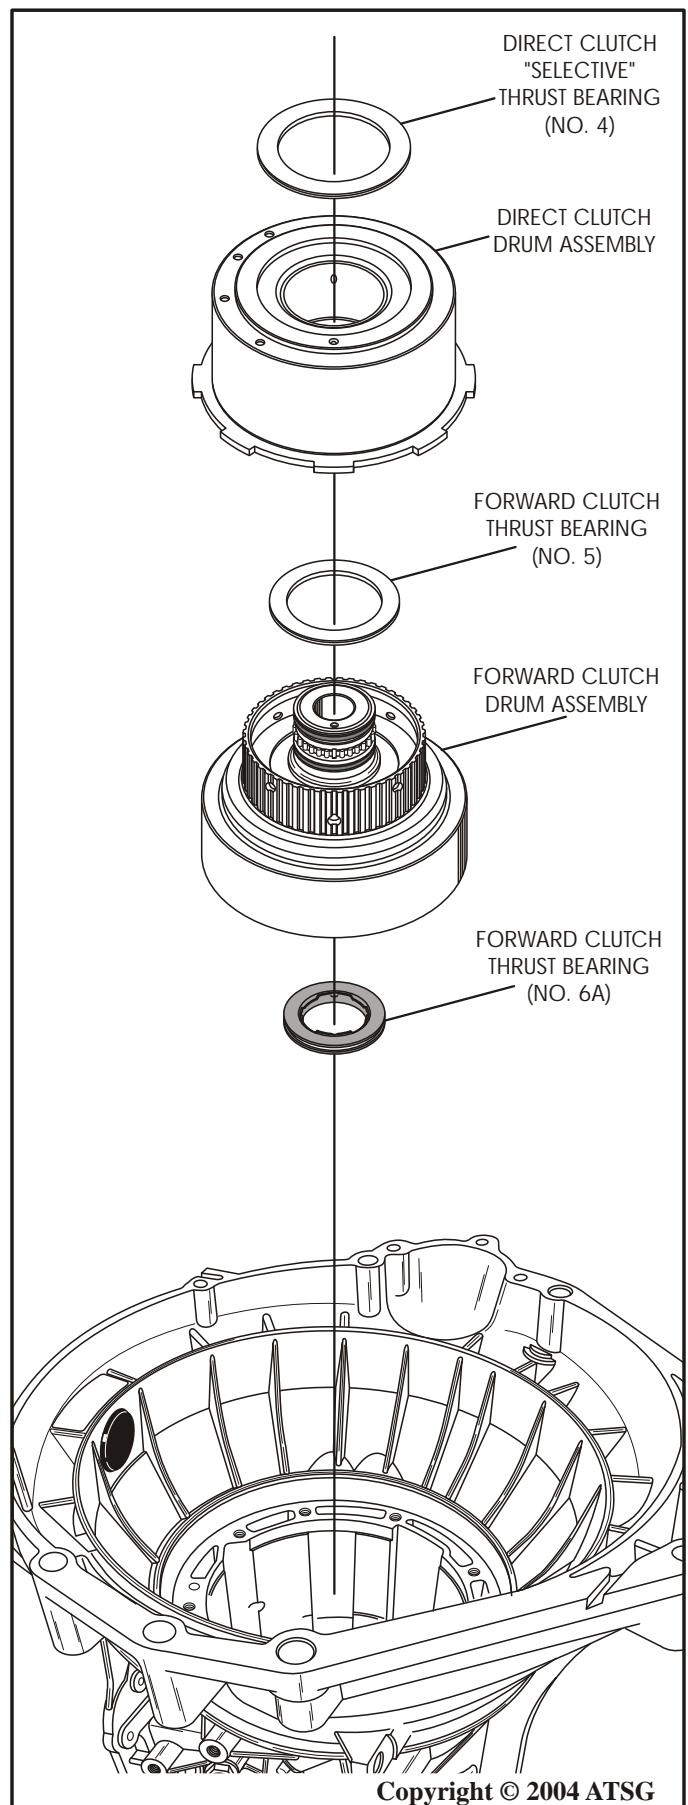

Figure 44
40. Remove and tag for I.D. direct clutch (No. 4) **selective** thrust bearing, as shown in Figure 44.
41. Remove the direct clutch housing assembly and set aside for component rebuild, as shown in Figure 44.
42. Remove and tag for I.D. forward clutch (No. 5) thrust bearing, as shown in Figure 44.
43. Remove the forward clutch housing assembly and set aside for component rebuild, as shown Figure 44.
44. Remove and tag for I.D. the forward clutch (No. 6A) thrust bearing (See Figure 44).